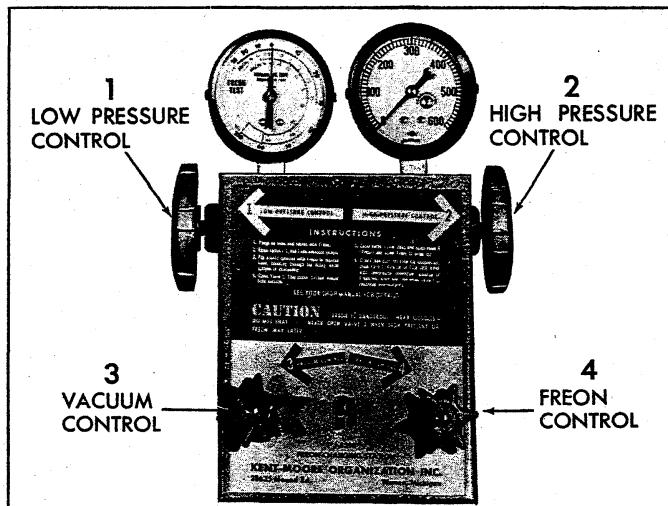

Fig. 56—Charging Station Controls
- See Figure 56. Turn high pressure control (2) one turn counter-clockwise (open). Crack open low pressure control (1) and allow refrigerant gas to hiss from low pressure gauge line for three seconds, then connect low pressure gauge line to low pressure gauge fitting.
- Install charging station as previously described. Refer to Figure 56 and 57 while performing the following operation.
- Crack open high (2) and low (1) pressure control valves, and allow refrigerant gas to purge from system. Purge slow enough so that oil does not escape from system along with Refrigerant.
- Turn on vacuum pump and open Vacuum Control Valve (3).
- If 28-29 inches cannot be obtained, close Vacuum Control Valve (3) and shut off vacuum pump. Open Refrigerant Control Valve (4) and allow 1/2 pound of R-12 to enter system. Locate and repair all leaks.
- With High and Low pressure Valves (1 and 2) open, close Vacuum Control Valve (3) and open Freon Control Valve (4). Operating the heater and air conditioner blower with the controls set for cooling will help complete the charging operation.